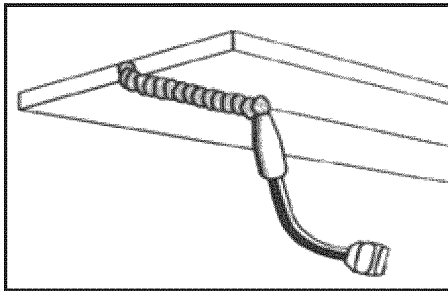

Fig. 10c
- **OVERHEAD POSITION** Is the most difficult welding position. Angle A (see **HOLDING THE TORCH**) should be maintained at 60 degrees. Maintaining this angle will reduce the chances of molten metal falling into the nozzle. Angle B should be held at zero degrees so that the wire is aiming directly into the weld joint. If you experience excessive dripping of the weld puddle, select a lower heat setting. Also, the weave bead tends to work better than the stringer. (Fig. 10c)